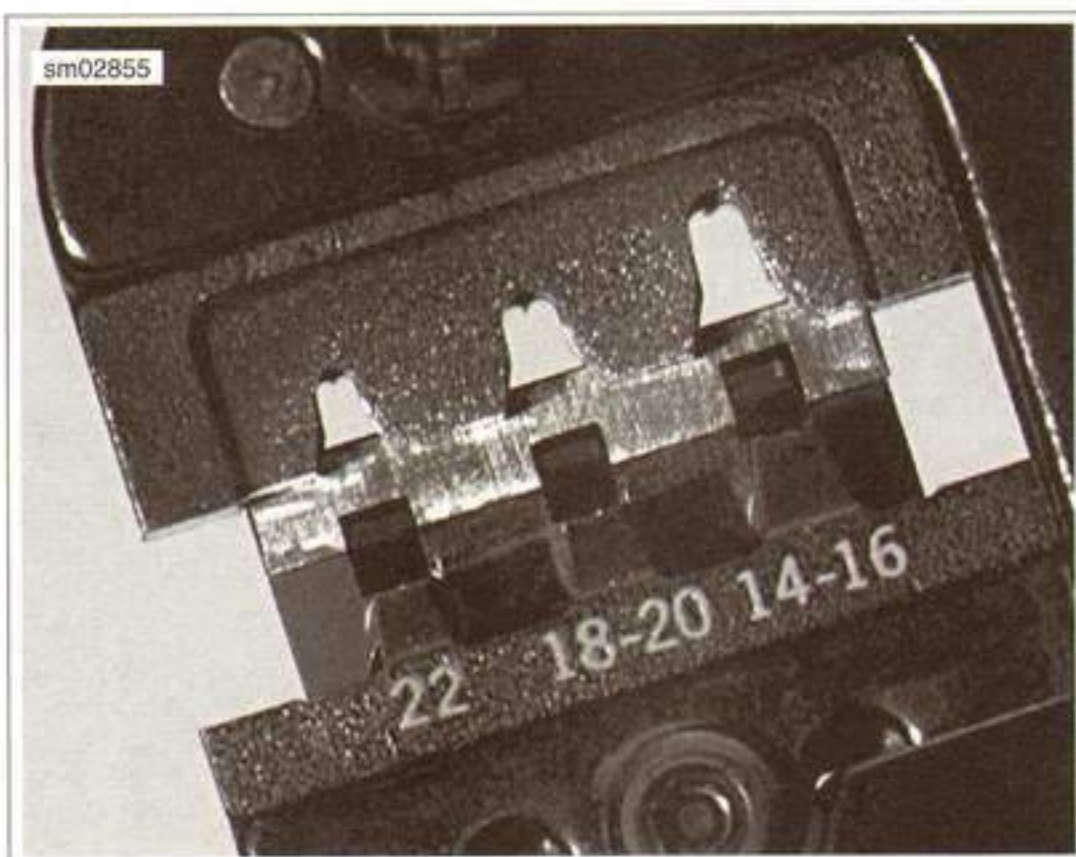

Figure A-32. Square Openings in Socket Locator Bar
1. See Figure A-32. With the crimp tails up, place the terminal through the punch/die into the square opening in the socket locator bar.